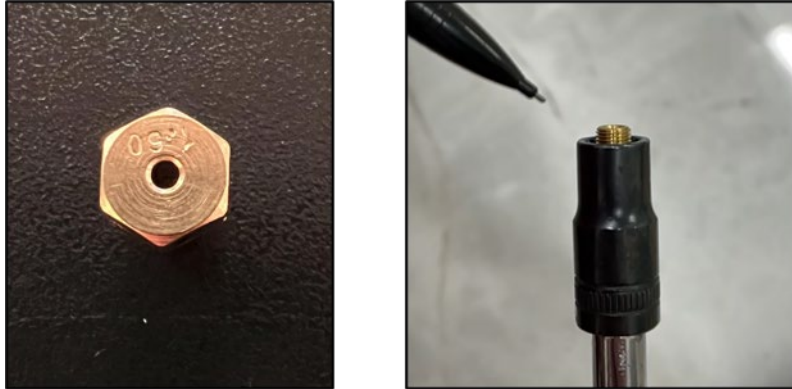

Figure 20 Natural Gas Conversion Kit
The conversion process (orifice change-out) is the same for each gas. Whatever gas your burner unit is set up for, it is supplied with a conversion kit (Figure 20 left) to allow changeover to the other fuel type. The customer must provide the required LP gas inlet or NG flex line.
- Use a shallow socket to ensure enough threads are exposed to get it started (Figure 20 right)